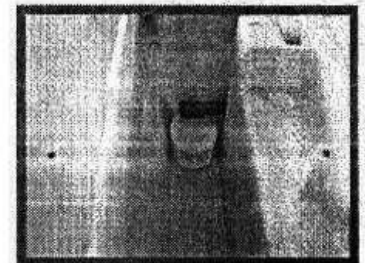

Fig9-3
- 4) Pull up the tank cover completely and you can disassembly the tank cover. See fig9-3 indication.